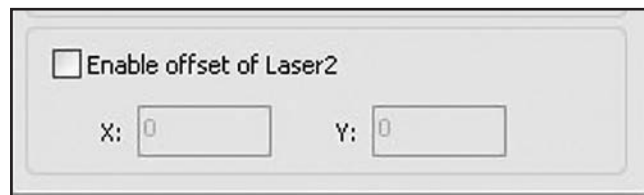

Figure 52. Example of output panel offset.
4. Open artwork file in RDWorks and select "Output" tab of control panel, then select "Enable offset of Laser2" (see **Figure 52**).